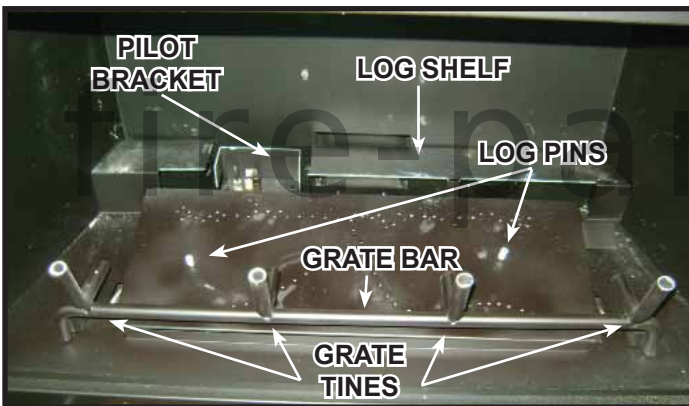
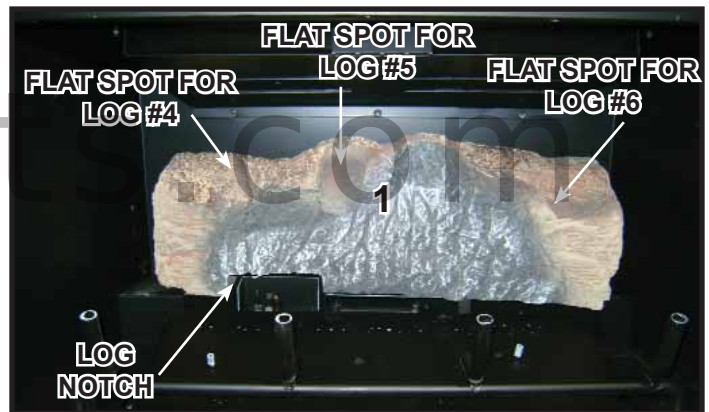

Figure 1.
Figure 2. Install Log #1
**Log #1 (SRV2226-701)** Position Log #1 as shown in Figure 2. Note additional placement instructions in Figure 1. Set the rear log (Log #1) on the log shelf. Position the log against the back of the firebox. Center the log notch over the pilot bracket.